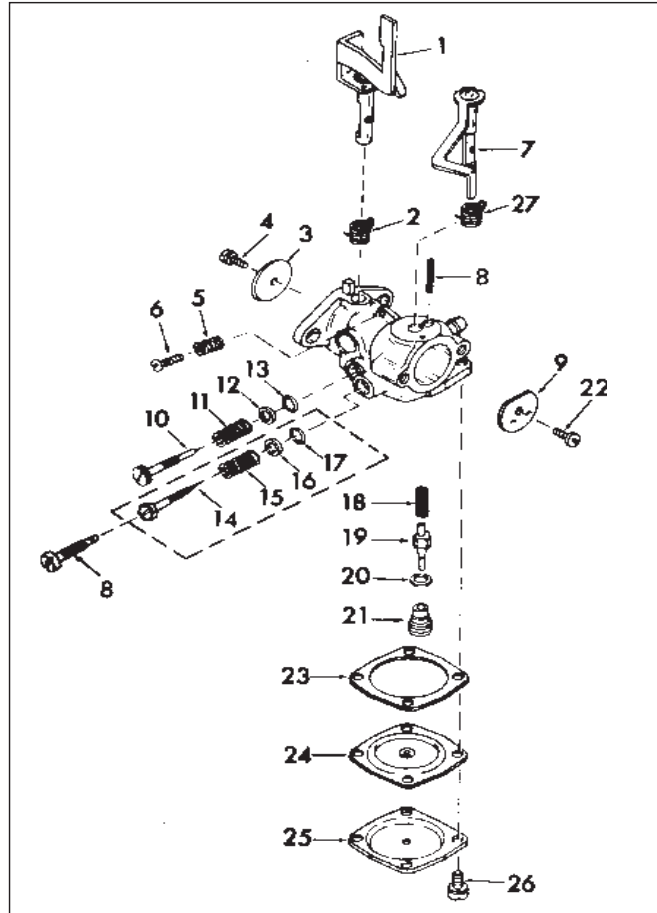
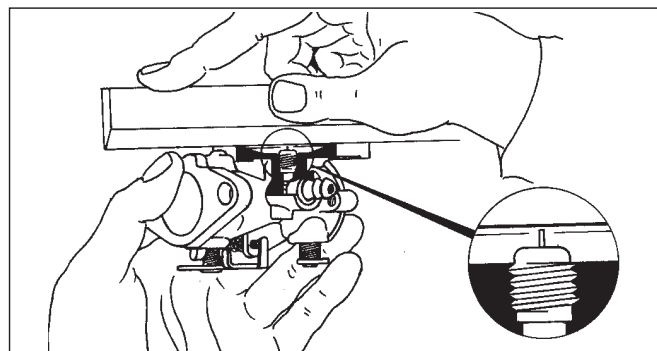

Fig. 5
Fig. 7
To clean carburettor (Fig 5), proceed as follows:
- Reassemble, referring to Fig 5, making sure that valve (21) and needle (19) are not damaged or bent. The needle (19) should protrude approximately level with the carburettor face, (Fig 7). If needle is sunk, this denotes that gasket (20) has not been fitted or that the needle is worn. If needle projects, it is possible that two washers have been fitted.